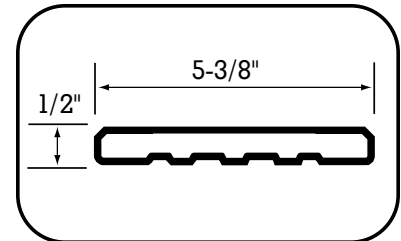

Fig. 16
- TimberTopper (12', 16' lengths; approximately 1.2 lb. per ft.) (Fig. 16)